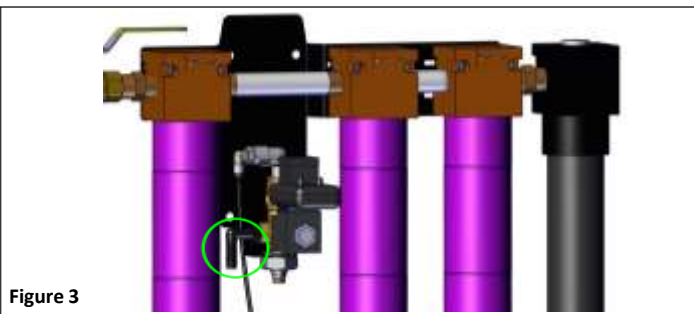

Figure 3
6. Connect drain tubing to solenoid drain; line should run to a floor drain or to a covered collection container. *See Figure 3*